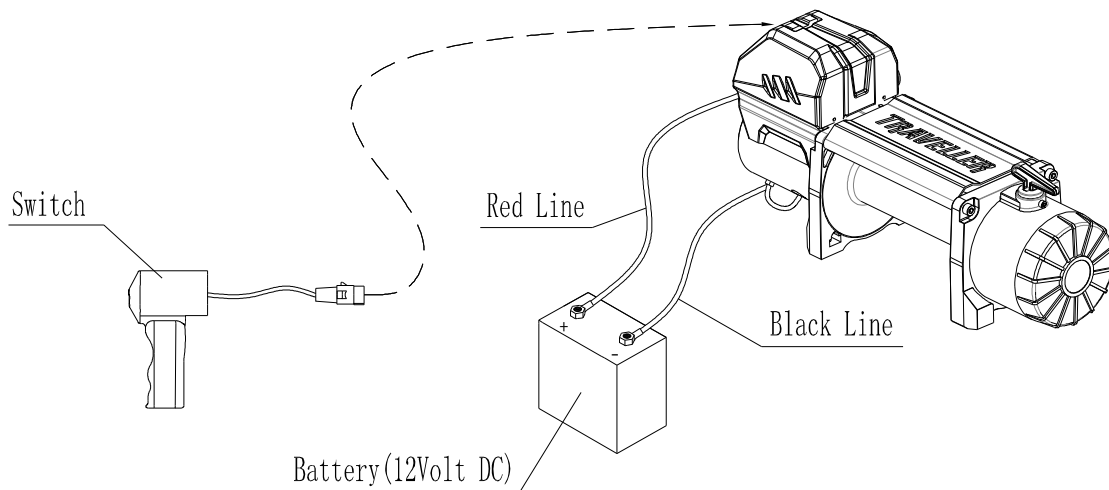

Fig. 1
**WARNING:** This winch must be mounted with the cable in an under wound direction. Improper mounting could damage the winch and void the warranty. Connect the red wire to the positive terminal and the black wire to the negative terminal of the battery. (See Fig. 1).